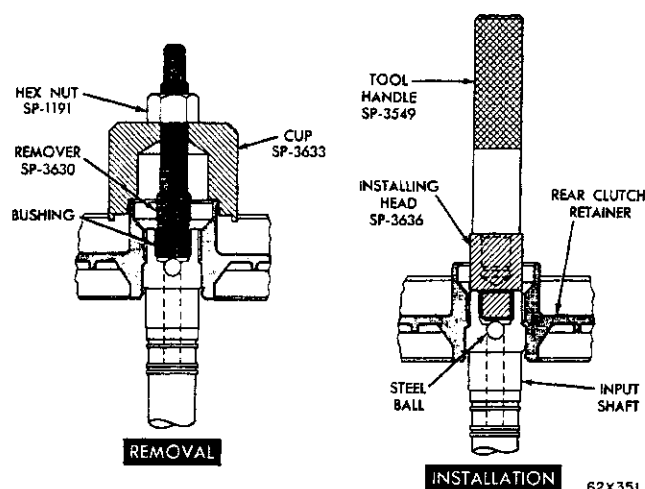

Fig. 90—Removing the Input Shaft Bushing—TorqueFlite
(1) Clamp the input shaft in a vise with soft jaws, being careful not to clamp on seal ring lands or journals.
(2) Assemble the remover Tool SP-3630, the cup Tool SP-3633, and the hex nut Tool SP-1191.
(3) With the cup held firmly against the clutch piston retainer, thread the remover into the bushing as far as possible by hand (Fig. 90).
(4) Using a wrench, screw the remover into the bushing 3 to 4 additional turns to firmly engage the threads in the bushing.
(5) Turn the hex nut down against the cup to pull the bushing from the input shaft.
(6) Thoroughly clean the input shaft to remove the chips made by the remover threads. Make certain the small lubrication hole next to the ball in the end of the shaft is not plugged with chips. Be sure no chips are lodged next to the steel ball.
(7) Slide a new bushing on the installing head Tool SP-3636, and start them in the bore of the input shaft.
(8) Stand the input shaft upright on a clean smooth surface and install handle Tool SP-3549 in the installing head (Fig. 90). Drive the bushing into the shaft until the tool bottoms.
(9) Thoroughly clean the input shaft and clutch piston retainer before assembly and installation.